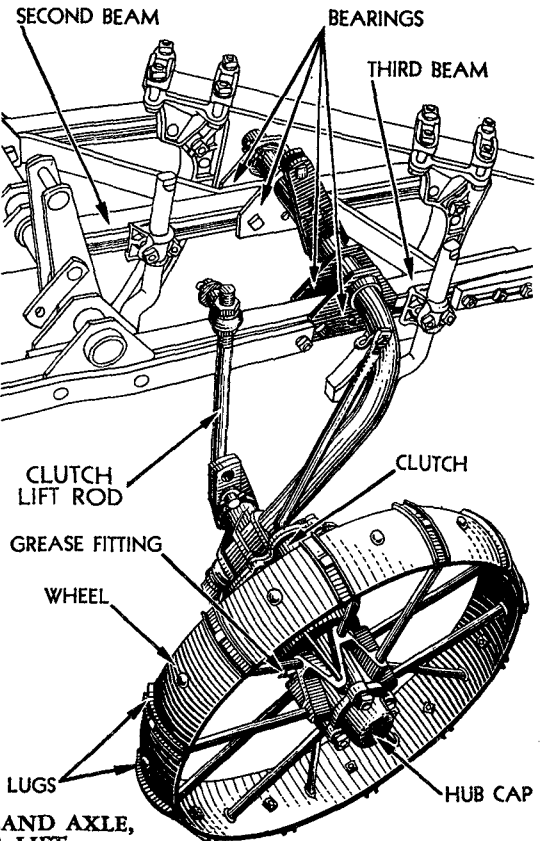

FIGURE 5—ASSEMBLING LAND AXLE, WHEEL AND POWER LIFT
4. **LAND AXLE, WHEEL AND POWER LIFT.**—(Figure 5.) Attach land axle and wheel assembly by first inserting the end of axle through the axle bearings that are attached to the second beam. **IMPORTANT:** Remove hub cap in order to observe grease being forced out through bearing on outer end of axle while being applied through grease fitting. Use No. 3 Cup Grease or equivalent. Bolt hub cap on the wheel. Bolt lugs to wheels.